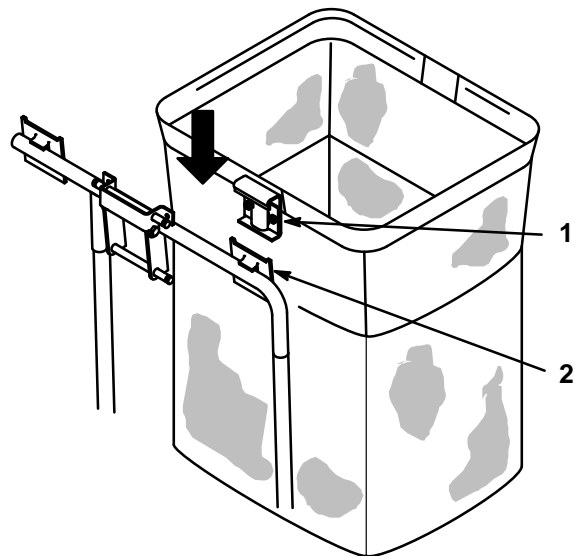

Figure 24
5. Install the bags by sliding the bag frame hooks onto the retaining brackets (Fig. 24).